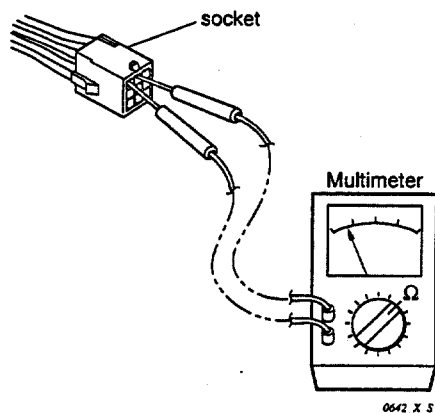

Fig. 9
(2) Checking the Protective Devices
- Then check continuity among plug's (and/or socket's) terminal as in Fig. 9.